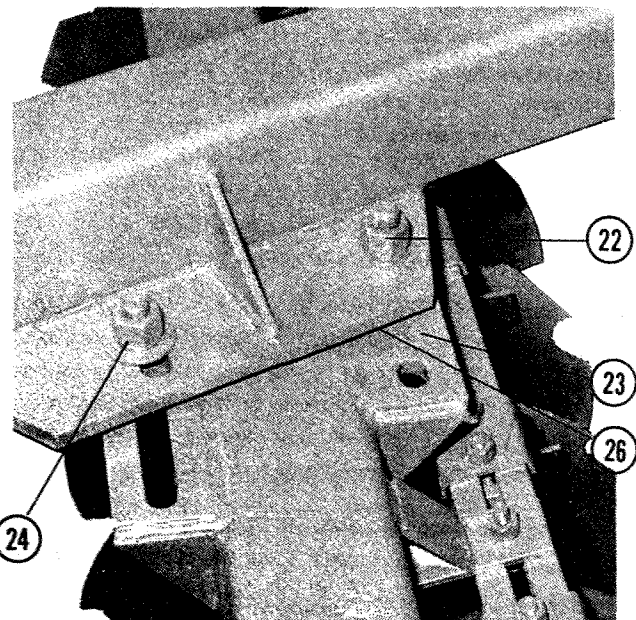

Figure 3
3. **Offsetting Rear Gang Bar:** (Refer to Figure 3) for ordinary conditions bolt(22) should be in the centre of lateral plate(23). When using disc as a double wide unit the rear gang bar is adjusted to maximum width to fill furrow. Remove two bolts(22), loosen bolt where slots are(24), adjust laterally then retighten all bolts.
- B. **Side to Side Leveling:** (Refer to Figure 3) In general, adequate levelling from side to side may be obtained by placing leveling washers(26) between angling plate on frame and gang bar. leveling washers are always used on narrow side(N) of disc only.